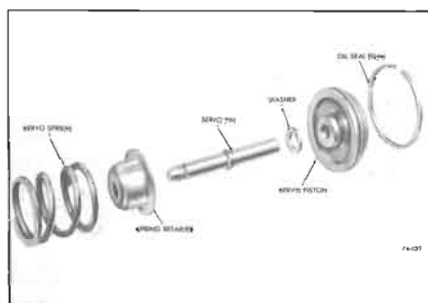

Figure 74-602
1. Inspect servo pin for damaged snap ring groove. See Figure 74-602.